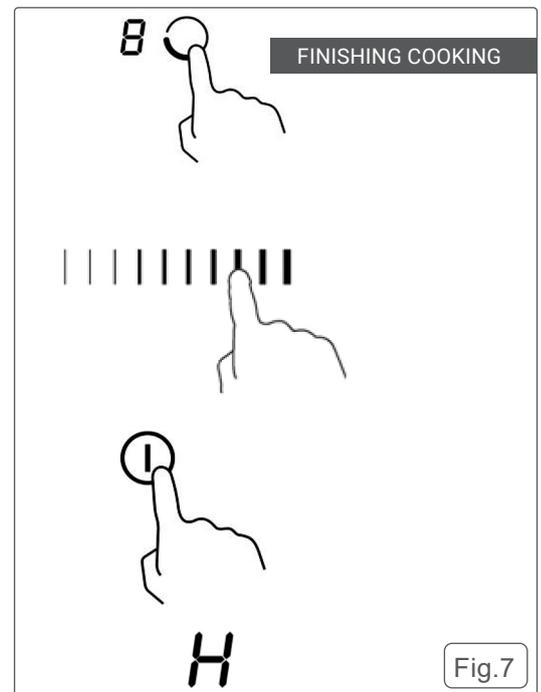

Fig.7
• FINISHING COOKING (See fig.7)